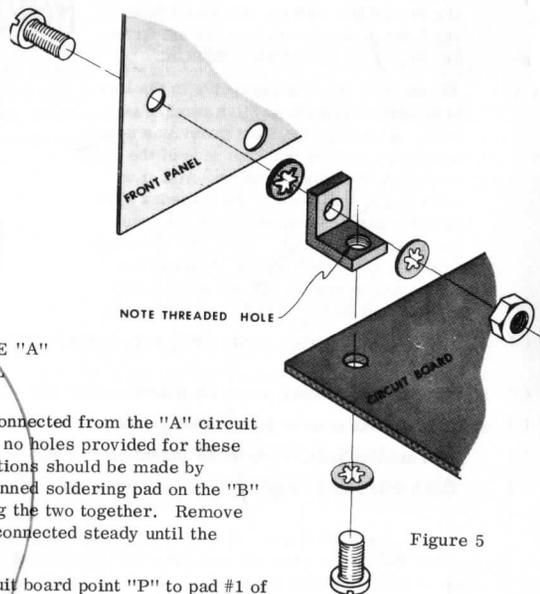

Figure 5
- () Fasten the two "L" brackets to the front panel using one 4-40 X 1/4 inch machine screw, two lockwashers and one 4-40 nut on each bracket. Note that the unthreaded hole in the "L" bracket is used in this operation as shown in figure 5.